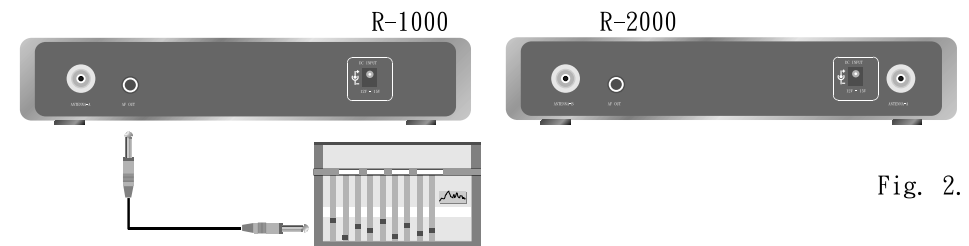

Fig. 2.
1.Connect the AF output of the receiver from unbalanced output jack ⑥ to input jack of the mixer by an output cable attached with "PHONE" plug , as shown in Fig. 2.